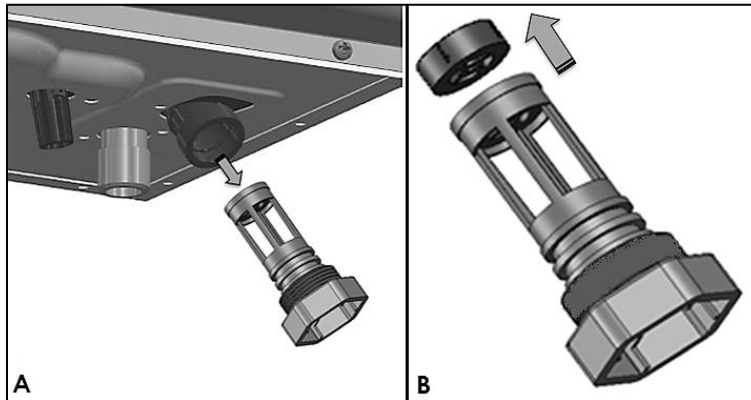

Figure 7 – A – Removing the DHW Inlet Filter, B – Removing the Flow Restrictor
2. Pull the two pins to release the DHW inlet filter. See Figure 7-A. The flow restrictor is attached to the top of the filter assembly.
3. Remove the installed white flow restrictor and replace it with the blue flow restrictor included with the appliance. See Figure 7-B.